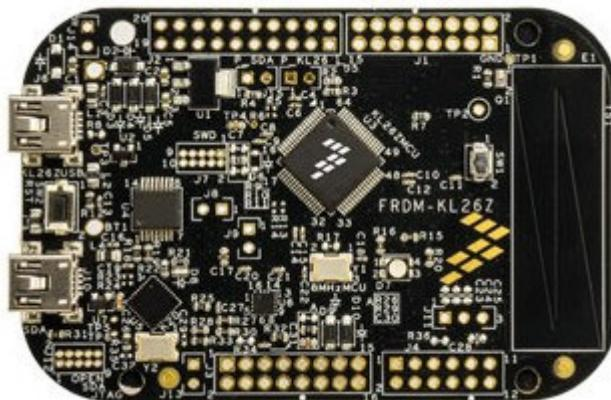

Figure 2. KL26Z Freedom Development Platform (FRDM-KL26Z)
- KL26Z Freedom Development Platform, Figure 2, based on the Kinetis KL2 family